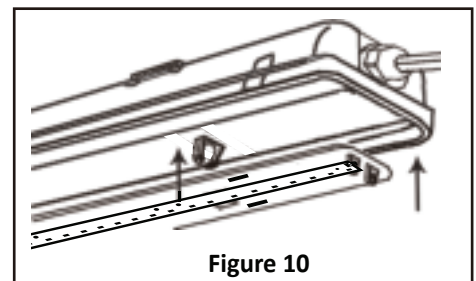

Figure 10
5. Position metal cover onto fixture opening. Make sure wires are not pinched between plastic housing and metal cover. Lift the metal cover, let the catchers through the slots, and lock. **See Fig. 10.**